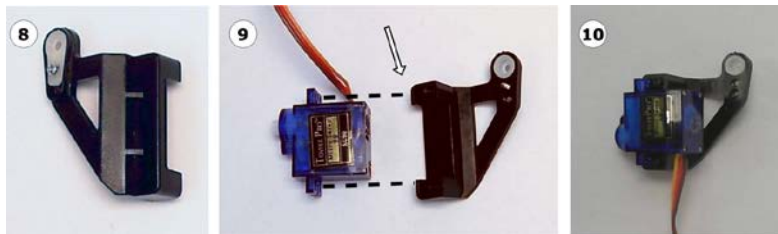

Figure 10.13 – Assembling the right arm
1. To assemble the right arm, you need another servo horn—this time, the kind with just a collar and a single straight arm. As shown in *Figure 10.13*, the servo horn needs trimming to fit the intended recess on the right arm. Use one of the M2 self-tapping screws to bolt this onto the right arm of the mechanism. The servo horn you have attached is at the front of the mechanism.